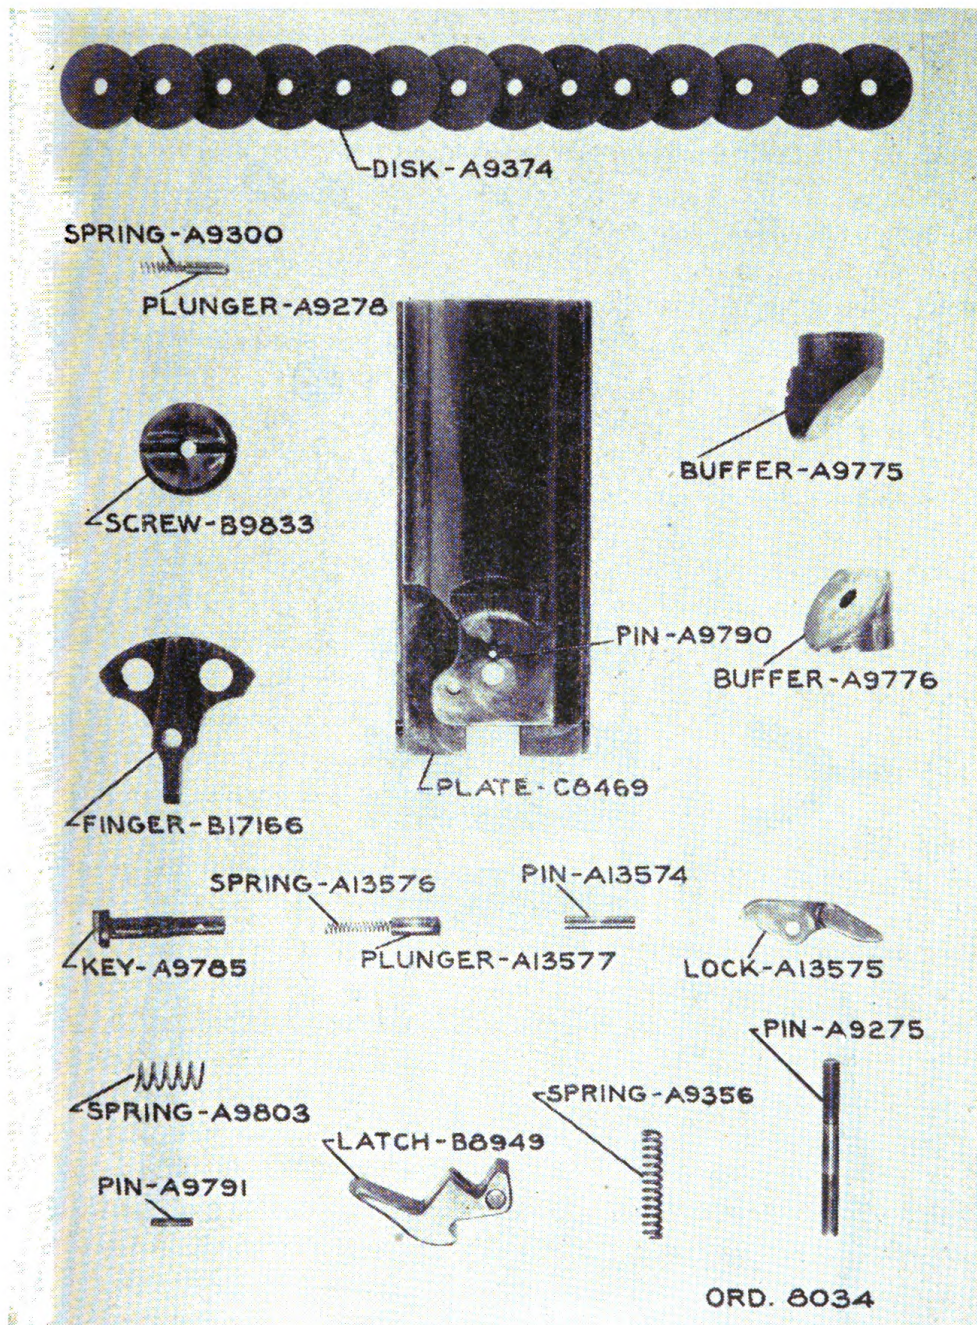

FIGURE 6.—Vertical buffer backplate (fixed type).
e. Backplate.—(1) *Vertical buffer (fixed type)* (fig. 6).—(a) Drive out backplate latch pin, being careful that backplate latch spring does not fly out upon removal of backplate latch.